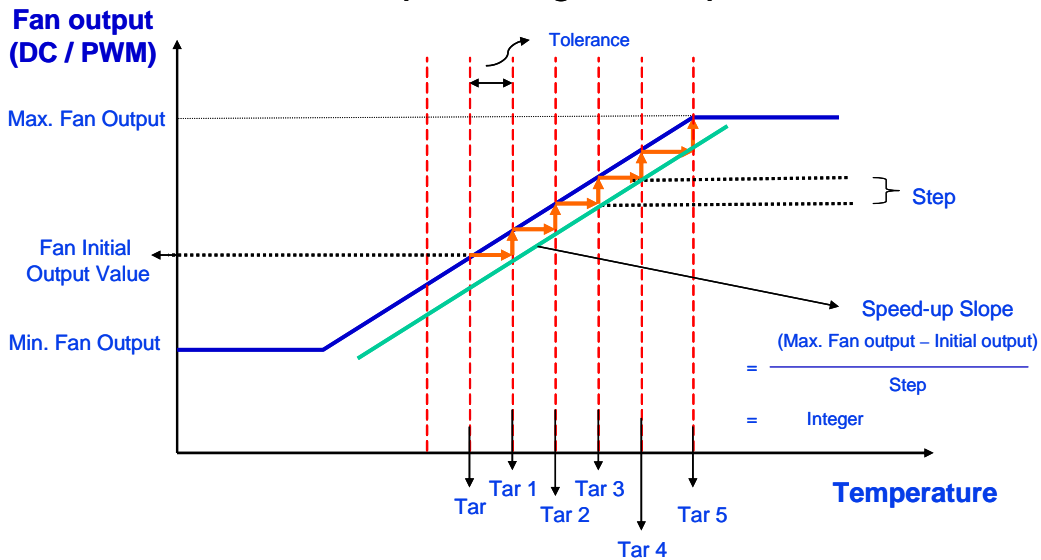

Figure 6.10
- (2) In the case that currently measured temperature goes beyond (Target Temperature + Temperature Tolerance), which is shown in Figure 6.10, fan speed jumps up to the next step. "Step" here refers to the value in the CPUFANOUT Output Value Select Register, Bank0 Index03h or Index61h.
- (3) Meanwhile, original Target Temperature dynamically shifts to (Target Temperature + Temperature Tolerance), and new Target Temperature, named Target Temperature 1, is formed. In other words, Target Temperature 1 equals original Target Temperature plus Temperature Tolerance.
- (4) If the currently measured temperature is within the (Target Temperature 1 \pm Temperature Tolerance) then, the fan speed remains constant. Otherwise, fan speed jumps up to the next step again. Target Temperature then dynamically shifts to (Target Temperature 1 + Temperature Tolerance), and new Target Temperature again, named Target Temperature 2, is formed.
- (5) The fan-speed-up and Target Temperature comparison-then-shift process continue until currently measured temperature locates within (Target Temperature X \pm Temperature Tolerance), or fan output speed reaches its maximum speed.
- (6) **Please be noted that "Speed-up Slope" shown in the Figure 6.10 must be an integer.** In other words, $\frac{Max.FanOutput - InitialOutput}{Steps}$ must be an integer; otherwise, it may lead to register overflow.